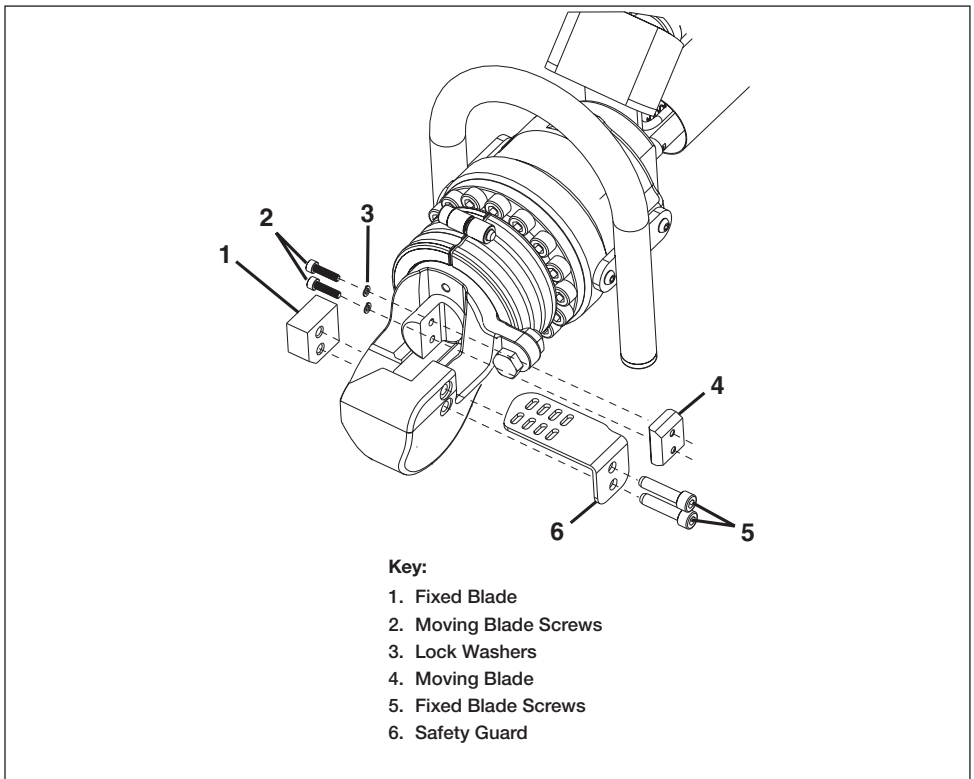

Figure 11, Blade Replacement
Replace the fixed blade as described in the following steps. Refer to Figure 11, items 1 and 2.
1. Start the pump. Move the piston to the “home” position (fully retracted). See Figure 11.
5. Remove the two fixed blade screws (Figure 11, item 5) and the safety guard (Figure 11, item 6).
6. Remove the worn fixed blade (Figure 11, item 1) and replace it with the new fixed blade.
7. Install two NEW fixed blade screws (Figure 11, item 5) and the safety guard. New fixed blade screws are included with the new blade. Torque to 18 ft-lb [25 Nm]. Also apply Loctite 243 or equivalent.
1. Start the pump. Extend the piston just enough to allow access to the moving blade screws. See Figure 11.
4. Loosen and remove the two moving blade screws (Figure 11, item 2) and lock washers (Figure 11, item 3) from the side of the cutter.
5. Remove the worn moving blade (Figure 11, item 4).
6. Insert the new moving blade (Figure 11, item 4).
7. Install and torque the moving blade screws (Figure 11, item 2) to 53 in-lb [6 Nm]. Apply Loctite 243 or equivalent.